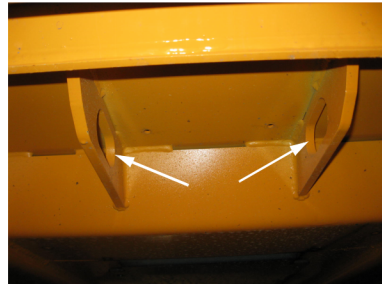

Figure 7 Front Tie-Downs / Retrieval Points
5. Fasten the loader to the hauling vehicle at the points indicated by the tie-down decals (Figure 7 and Figure 8).